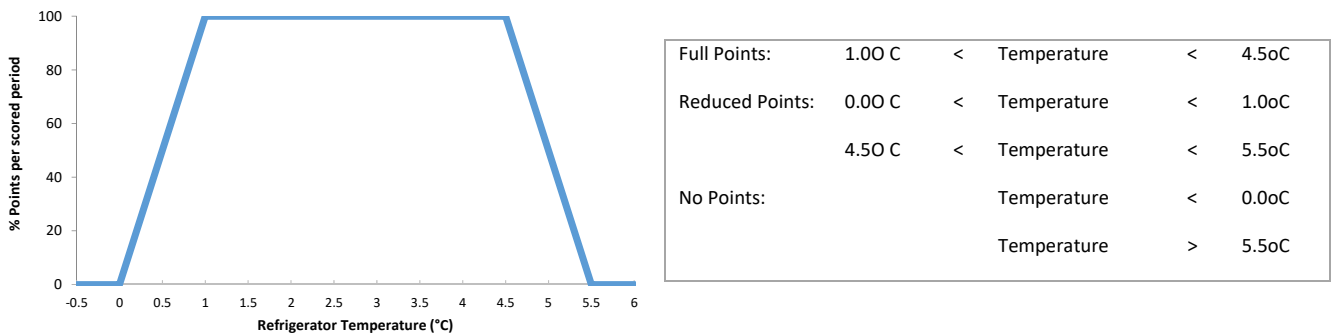

Figure 13: Refrigerator sub contest point's distribution
- Reduced points are earned if the time-averaged interior refrigerator temperature is between 0.0°C and 1.0°C or between 4.5°C and 5.5°C. Reduced point values will be scaled linearly, as shown in Figure 13.